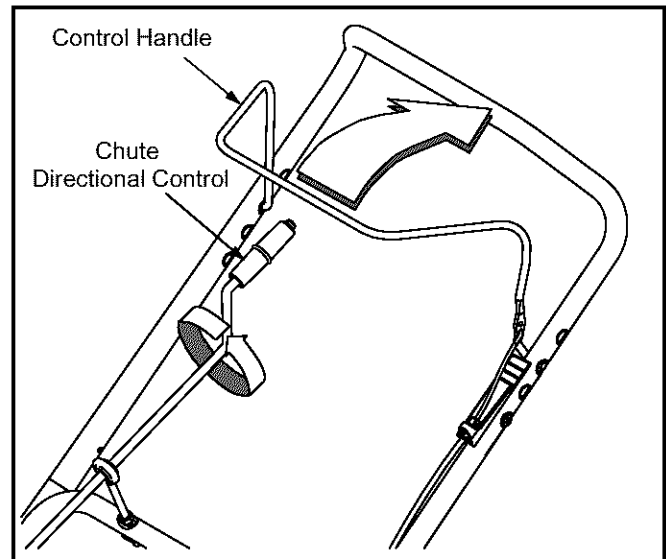

Figure 7
- Crank the chute directional control to position the discharge chute opening in the desired direction. See Figure 7.
- Engage the auger by squeezing the control handle against the upper handle. See Figure 7.